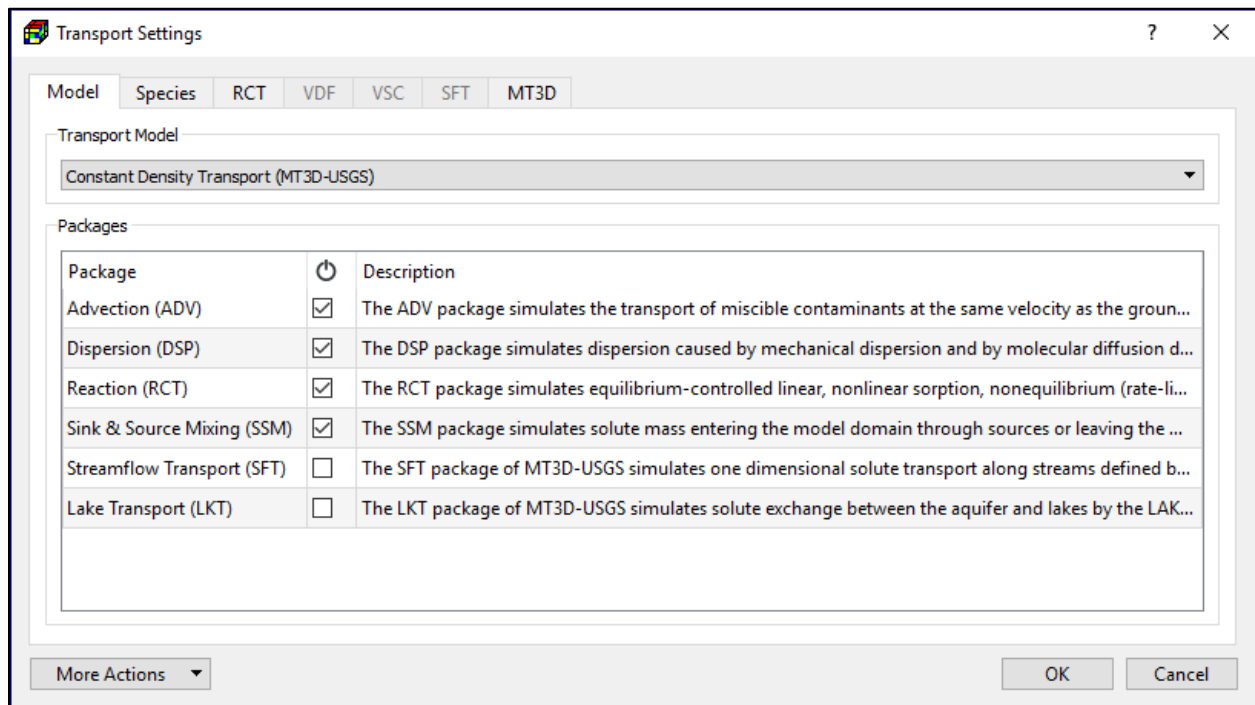

Figure 108. The Model tab of the Transport Settings dialog box
The first step to use MT3D or SEAWAT is to define the species, packages, and the reaction type in the Transport Settings dialog box (Figure 108). The features of this dialog box are detailed below.
2. **Model Tab** (Figure 108) defines the transport model and packages to be used in the simulation.